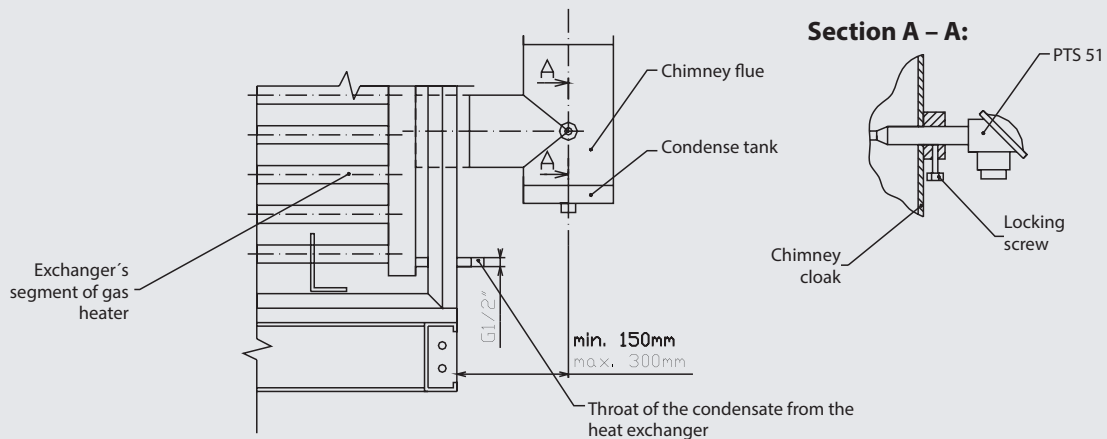

Fig. 1.10: Location of the flue gas temperature sensor
the exchanger's component (see Figure 1.10). Servo-drives and the flaps are attached there to keep the flue gases temperature in the chimney at the level of 160 °C. It means that if the flue gases temperature (TS) increases above the level of 160 °C, then the bypass flap closes (and the exchanger section of the flap opens).
Regulation should provide alternation of the burners on the basis of operating hours. When the equipment is turned on for the first time, then burner No. 1 is PH1 and burner No. 2 is PH2. When the burner PH1 reaches the number 1,300 of operating hours, the controlling system should use PH2 as burner No. 1 and PH1 as the burner No. 2. After other 1,300 hours of operation there shall be new alternation of burner priorities (PH1 will be again the number 1, PH2 will be the number 2). Flue gas temperature sensors TS1 and TS2 (those located in the chimney according to Figure 1.10) will be for information only in this case (there are no bypass and exchanging valves). Flue gas temperature sensor will have an emergency function – the burner turns off when the flue gas temperature reaches 220 °C, while reporting the fault.